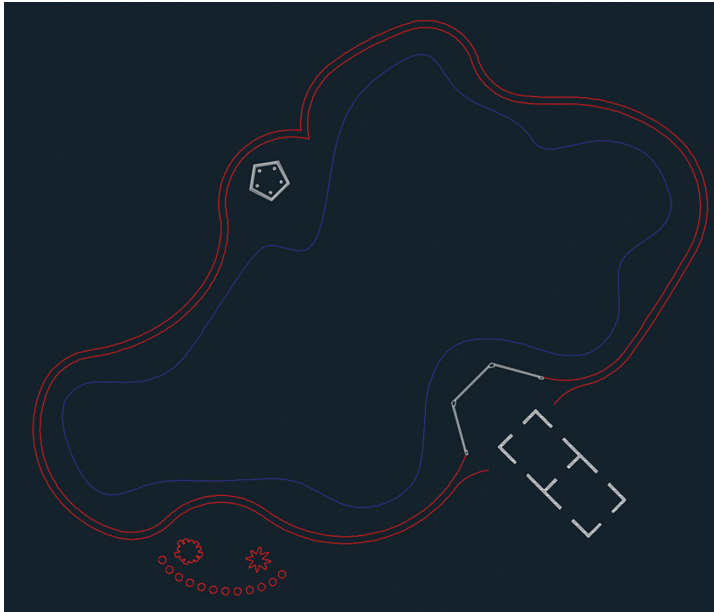

FIGURE 5.21 Completed landscape plan
4. Continue blending all the adjacent curves in the tree. Figure 5.21 shows the completed drawing.